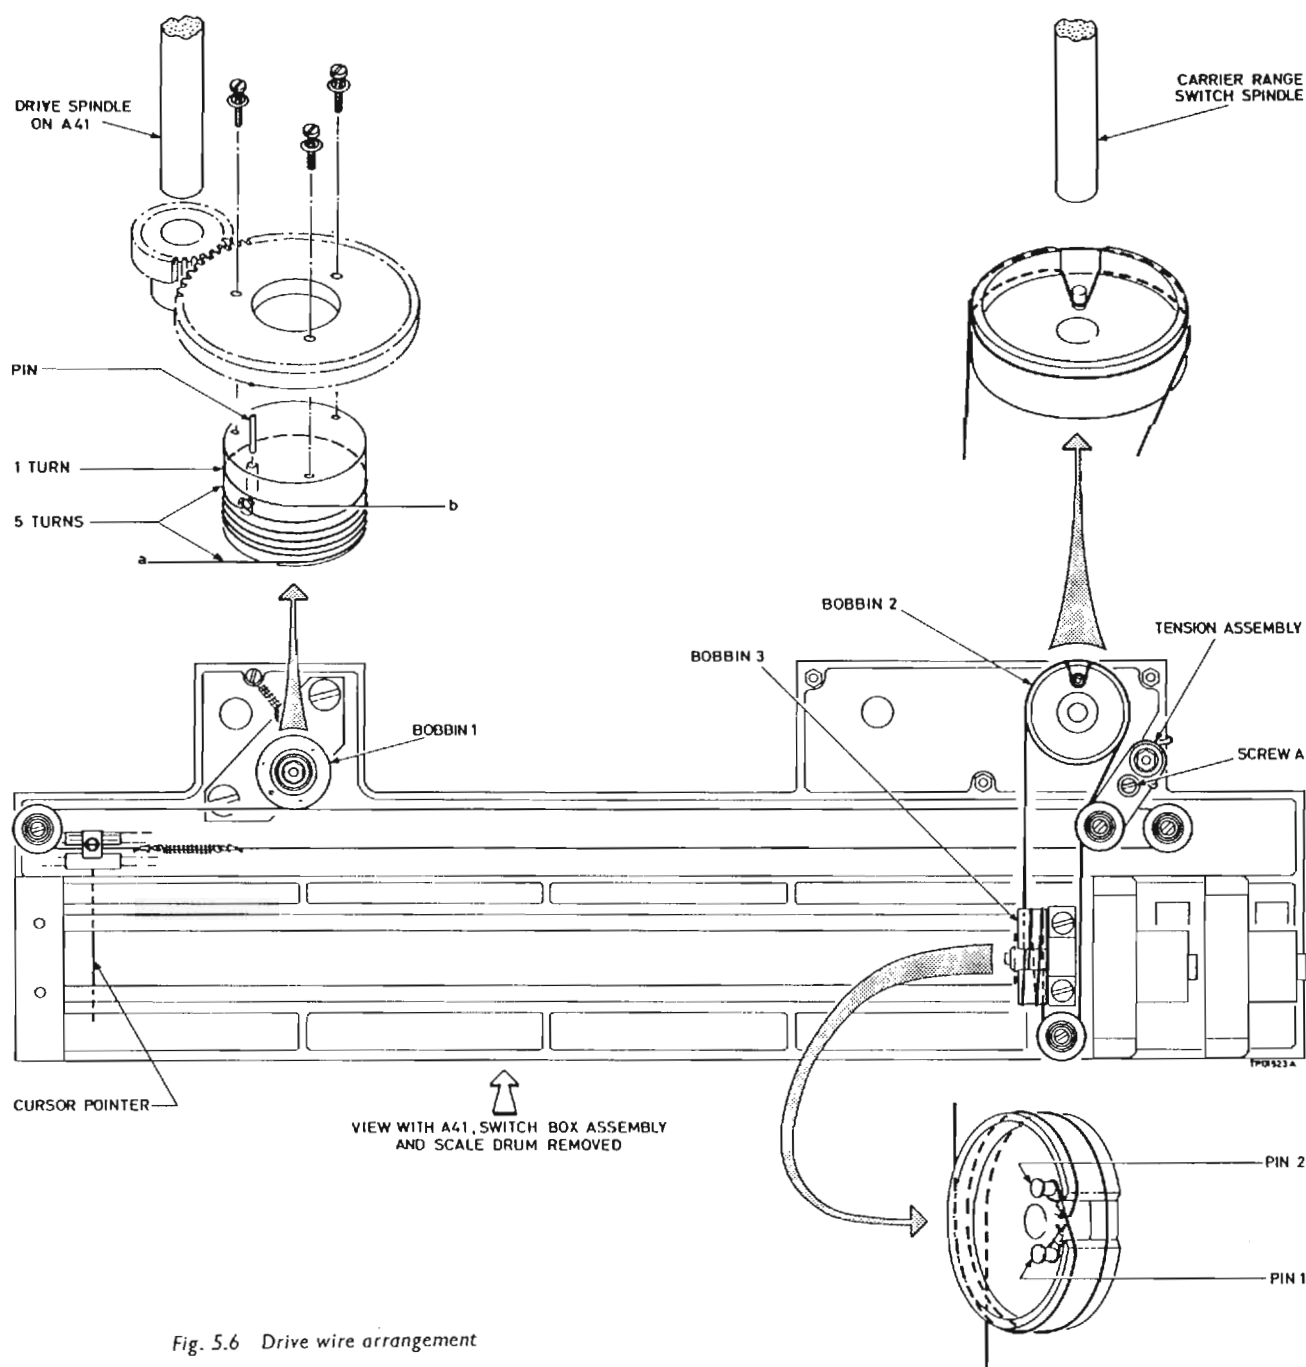
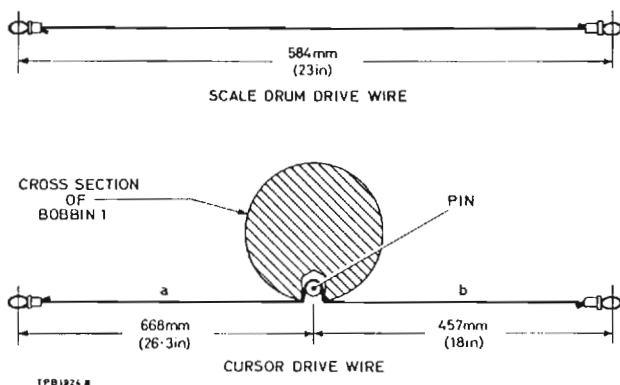

Fig. 5.6 Drive wire arrangement
Fig. 5.7 Dimensions of drive wires
- (1) Take a length of wire at least 630 mm (24.8 in) and prepare it as in Fig. 5.7 with 3.5 mm (1/8 in) diameter loops, and secure the loops by crimping the eyelets.
- (2) Slacken screw A, move the tensioning arm away, retighten the screw and remove the old drive wire.
(3) With the bobbins in the position shown in Fig. 5.6 attach one end of the wire to pin 1, take $1\frac{1}{2}$ turns round the bobbin 3, lead it round the top pulley, past the tension pulley and then $1\frac{1}{2}$ turns around bobbin 2 ensuring that a loop is taken around the screw as shown in Fig. 5.6. Finally take $\frac{1}{2}$ turn around bobbin 3 and attach the end to pin 2.
(1) Release the old drive wire from the cursor.
(2) Remove bobbin 1 complete with the gear wheel spindle and mounting plate; remove the M3 screw attaching the spring to the casting and the two large screws that attach the mounting plate to the casting. Note, these two screws are locked with varnish and may at first be stiff to remove; when reassembling, varnish such as Hadfields 4270-001 Blue should be applied.
(3) Remove the gear wheel from bobbin 1, extract the pin and remove the remains of the old wire.
(4) Take a length of wire at least 1160 mm (45.7 in), attach it to the pin in bobbin 1, prepare the ends with 2 mm ($3/32$ in) diameter loops so that the dimensions are as in Fig. 5.7. Secure the loops by crimping the eyelets. Refit the gear wheel.
(5) Wind five turns using end a, and one turn with end b and temporarily secure the turns with adhesive tape.
(6) Refit bobbin 1. Pass wire around the pulleys and pull to remove slack before joining the ends with the spring.
(7) Refit cursor approximately 15 mm ($\frac{1}{2}$ in) from end a of the wire. Refit scale drum by pressing the locating pegs into engagement, refit left-hand scale drum bearing.